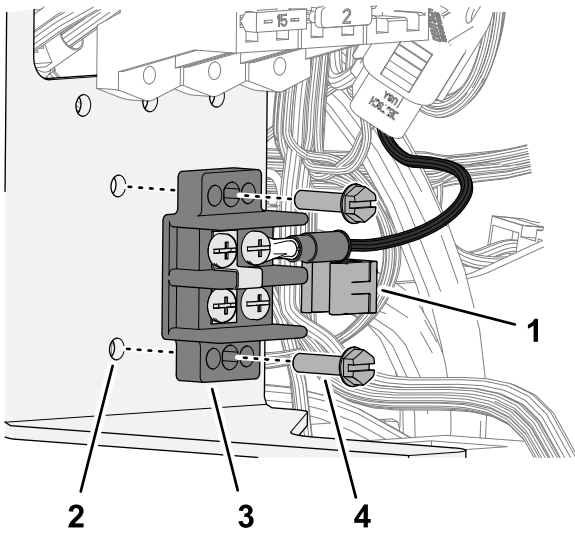

Figure 213
- 6. Remove the 2 bolts (10-24 x 3/4 inch), 2 locknuts (10-24), and wire-support clip that secure the ground block and wire to the battery bracket (Figure 213).